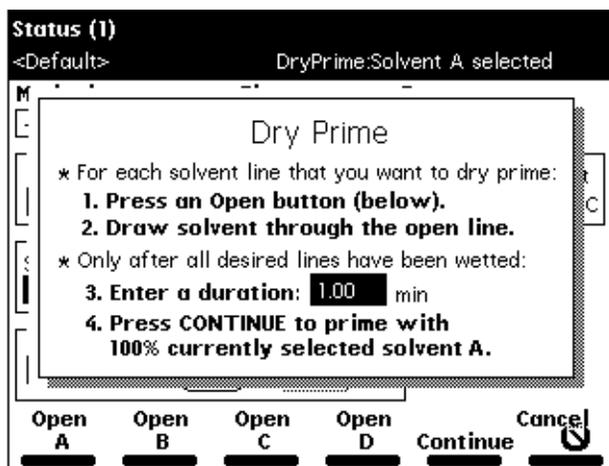

Figure 2-10 Dry Prime Dialog Box
6. Select **Dry Prime**, then press **Enter**. The Dry Prime dialog box appears (Figure 2-10).